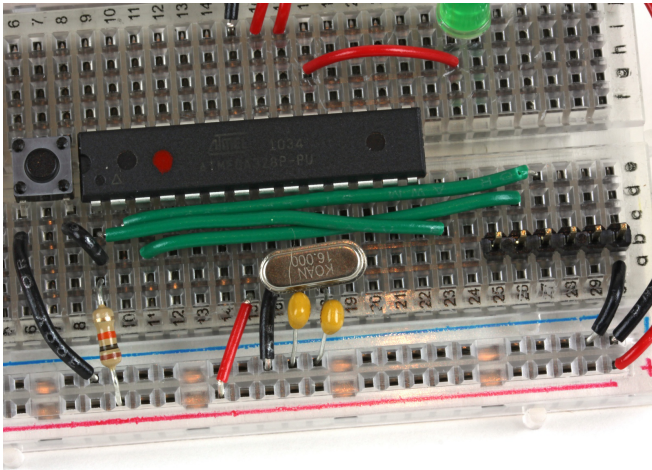

Figure 1-8. *The programming header connected to the ATmega*
8. The final step is to add a 1/2" piece of black wire from "a30" to the ground rail (-) of the breadboard. Figure 1-8 shows the completed connections.